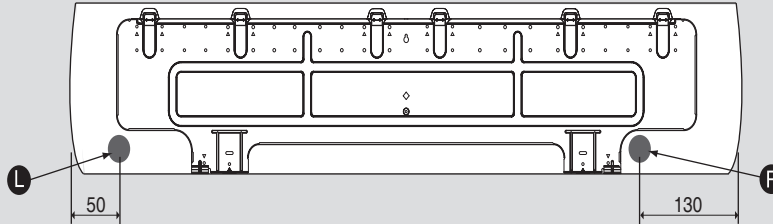

Figure 5
- For this method of installation, make a 65mm diameter hole in the wall at either point L or R. ( Figure. 5 )